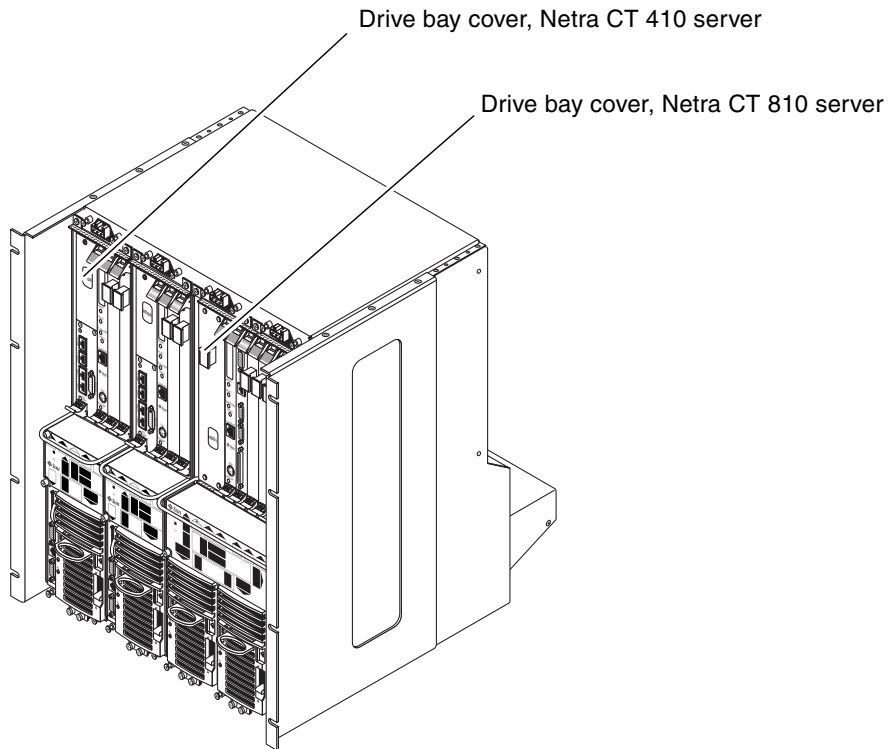

FIGURE 10-1 Drive Bay Cover Locations
11. Secure the drive bay cover over the drive bays (FIGURE 10-1).
2. Remove the drive bay cover (FIGURE 10-1).